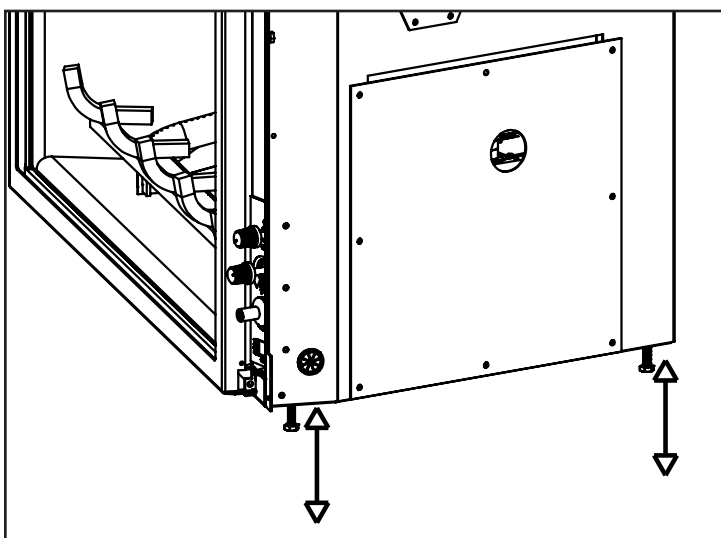

Figure 22: Levelling Legs Position.
8. Adjust the levelling legs to ensure the unit is level and high enough if a base shelf and/or riser is to be installed. There are four levelling legs on the bottom of the unit (shown in Figure 22).